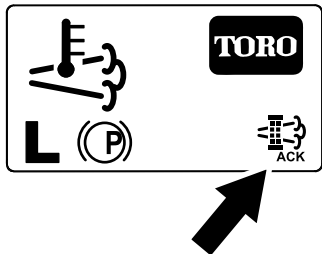

Figure 64
8. The InfoCenter displays the home screen and the regeneration acknowledge icon (Figure 64) appears in the lower right corner of the screen as the regeneration processes.